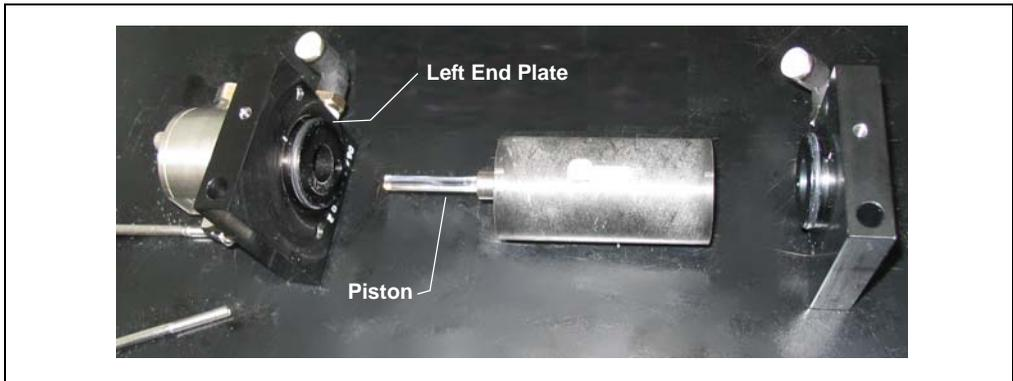

Figure 5-13. Removing the Pump Left End Plate
4. Remove the left end plate from the cylinder, exposing the piston (see Figure 5-13).